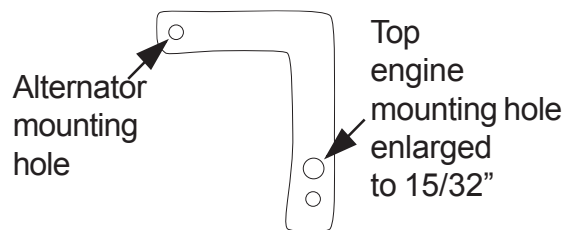

Figure 2 Engine Bracket Installation
4. Remove engine bracket. Enlarge top engine mounting hole to 15/32". See Figure 2. Re-install engine bracket. Install 13/32"x1-1/4"x.047" (10.5mmx 30mmx2.5mm) large OD zinc-plated steel washer and existing bolt at top hole only. Use existing hardware for lower hole. Refer to engine manufacturer's specifications for proper hardware. Do not tighten mounting hardware.